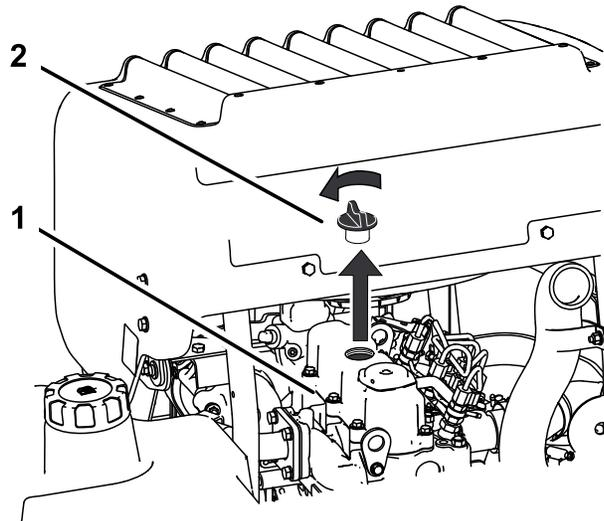

Figure 64
6. Remove the oil filler cap from the top of the engine (Figure 64).
2. Remove the oil-fill cap and dipstick (Figure 64).